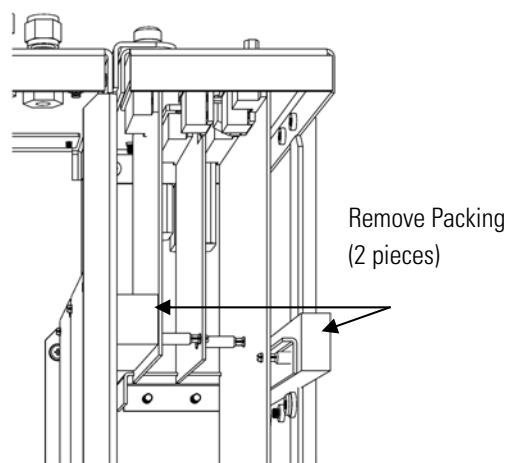

Figure 2–1. Remove the Packing Material
3. Remove the packing material (**Figure 2–1**).